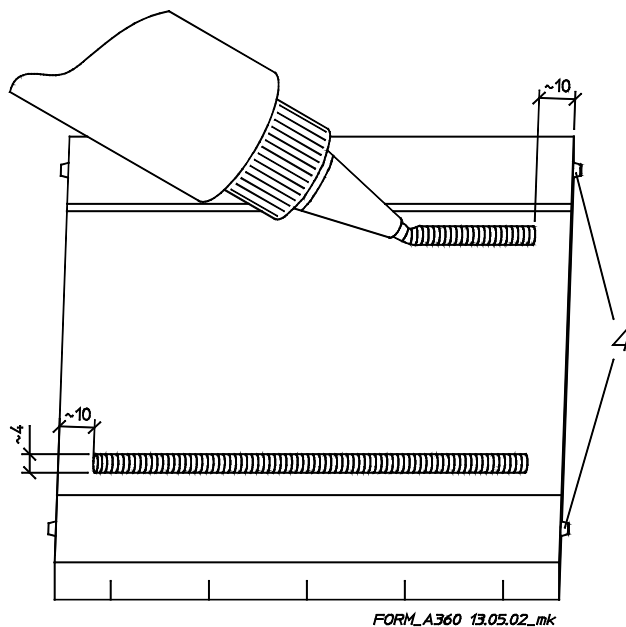

Fig. 1-3
- Apply two lines of silicone (approx. 2 mm high) to the back of the lead-through pad → Fig. 1-3 .